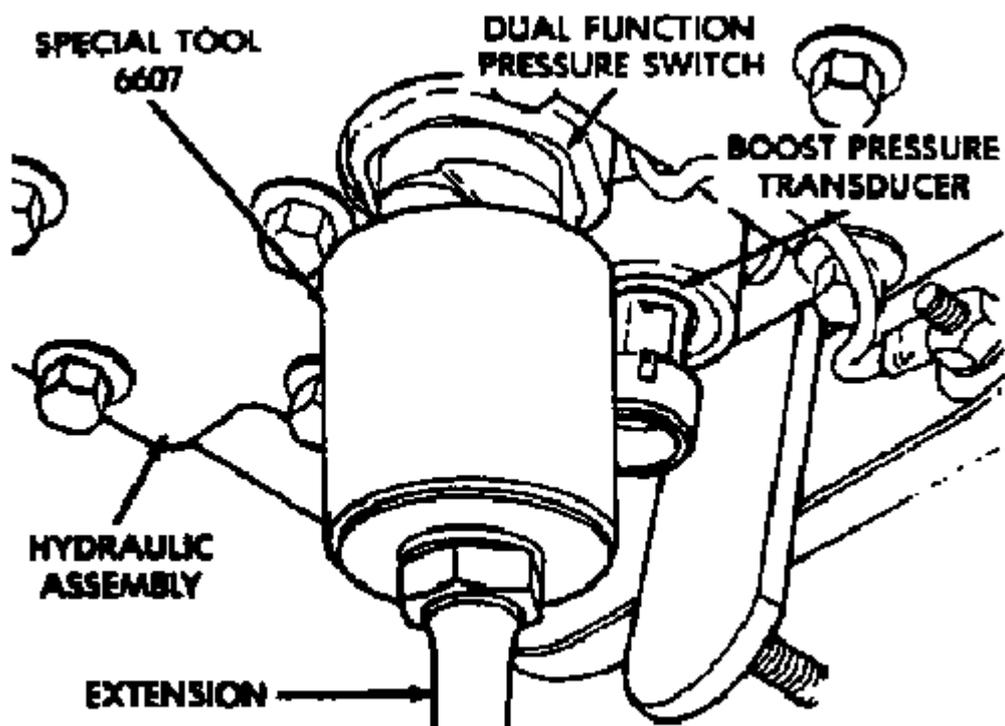

Figure 3
3. Use special tool #6607 to remove the dual function pressure switch from the actuator housing. Using special tool #6684, remove the boost pressure transducer from the actuator housing (Figure 3).